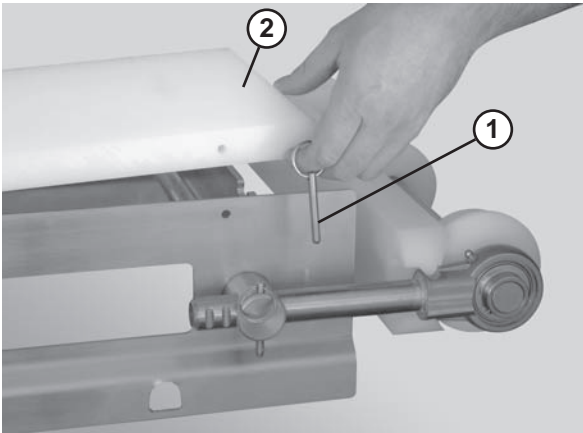

Figure 47
1. Remove the pull pins (Figure 47, item 1) that connect the guide (Figure 47, item 2) to the frame.